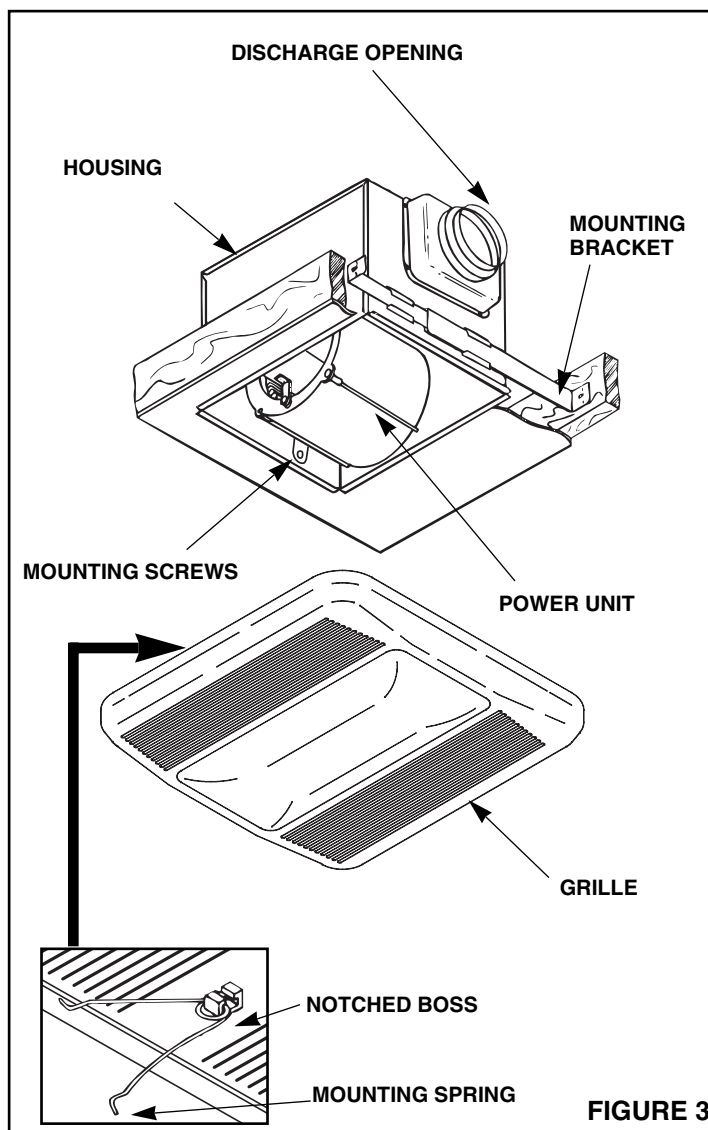

FIGURE 3
1. Refer to Figure 3. Insert mounting brackets at each end of housing.
4. Refer to Figure 3. Securely tighten screw.